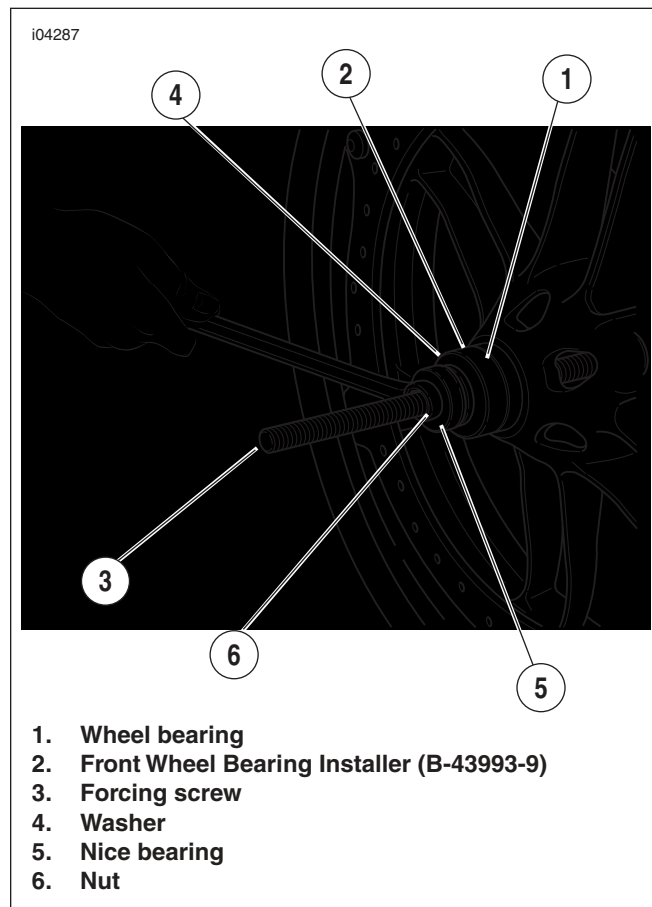

Figure 2-17. Install the Bearing
11. See Figure 2-17. Insert a **new** wheel bearing (1) squarely into the hub, with the lettered side pointing out (away from the wheel).
12. Slide the FRONT BEARING INSTALLER (Part No. B-43993-9) (2) onto the forcing screw (3), with the smaller diameter toward the bearing bore.
13. Install a washer (4), Nice bearing (5) and nut (6) onto the forcing screw (3).